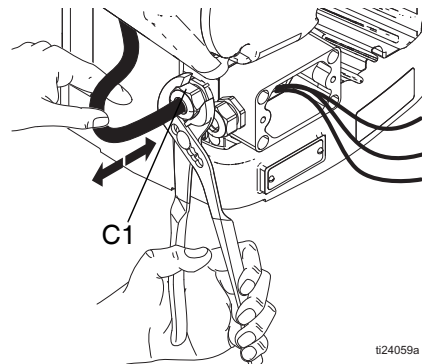

FIG. 28: Loosen Cord Grip
8. Use an adjustable wrench to tighten the fan cord grip (C1). See FIG. 28, page 27.